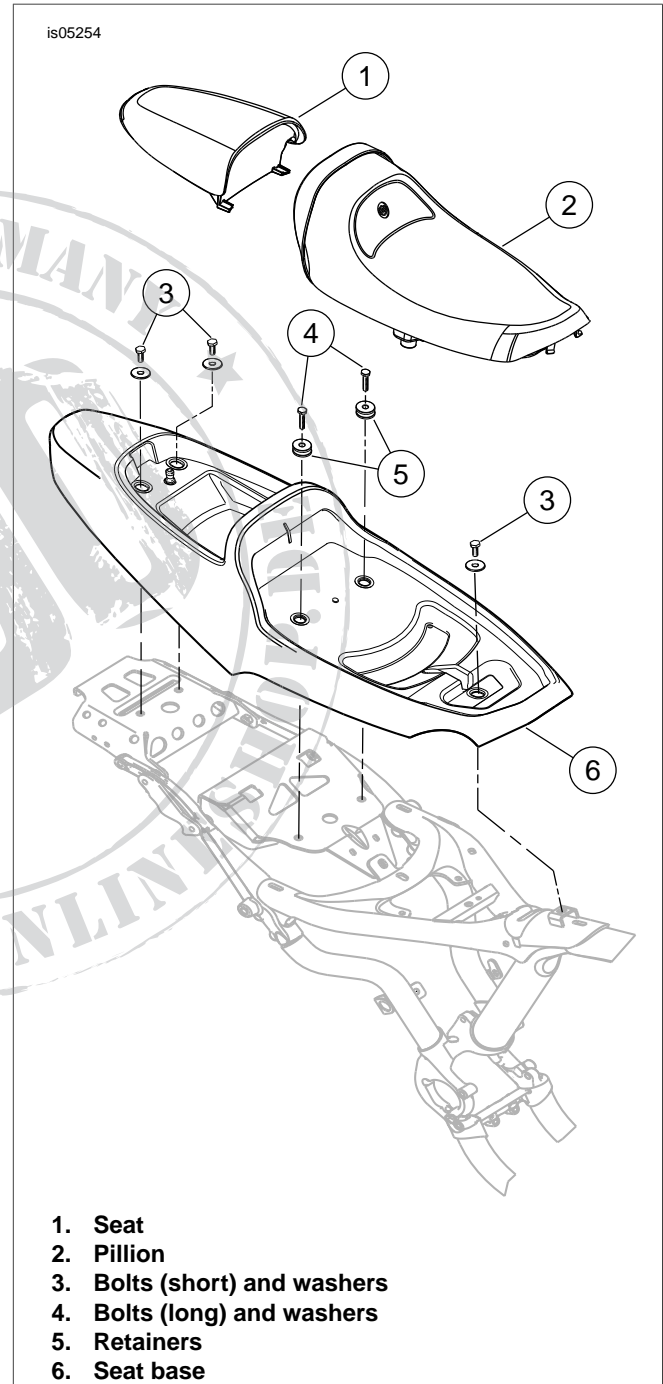

Figure 1. Remove Seat, Pillion and Seat Base
1. See Figure 1. Remove rider's seat (2) and passenger pillion (1).